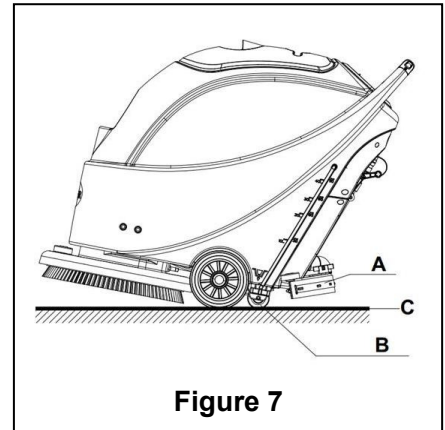

Figure 7
8. Release the safety switch (1) to turn off the brush/pad-holder and solenoid valve.
9. 9. Press the Vacuum pump switch (39) to the “O” position, and the Vacuum pump will delay for 5 seconds before stopping work.
10. 10. Press the water flow volume control switch (40) to the “O” position to completely turn off the work of solenoid valve.
11. Press the power switch (38) to the “O” position. And disconnecting the power cable (9) from the power supply.
12. Use the squeegee lifting handle (14) to lift the squeegee.
13. Grasp the handlebar (2) and gently tilt the machine backward until the guide wheel (B) touches the floor. See **Figure 7**.